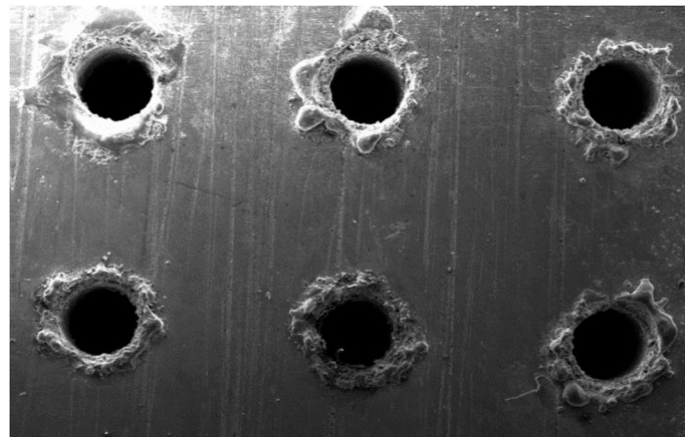

Figure 3
- [b] Figure 3 shows a scanning electron microscopy (SEM) image of holes drilled into titanium alloy plate by an electrical discharge machining (EDM). Discuss the working principles of the EDM and cause of defect of the drilled holes. Suggest TWO (2) ways to prevent it.
[b] An engineering component made of aluminum as shown in Figure 3[b] need to be machined using CNC milling machine by Company A. Using standard G-code programming, prepare a complete code for machining the part to get optimum toolpath. Use absolute coordinate in your G-code programming. You need to justify your approach and answer. State all conditions and assumptions you have used.